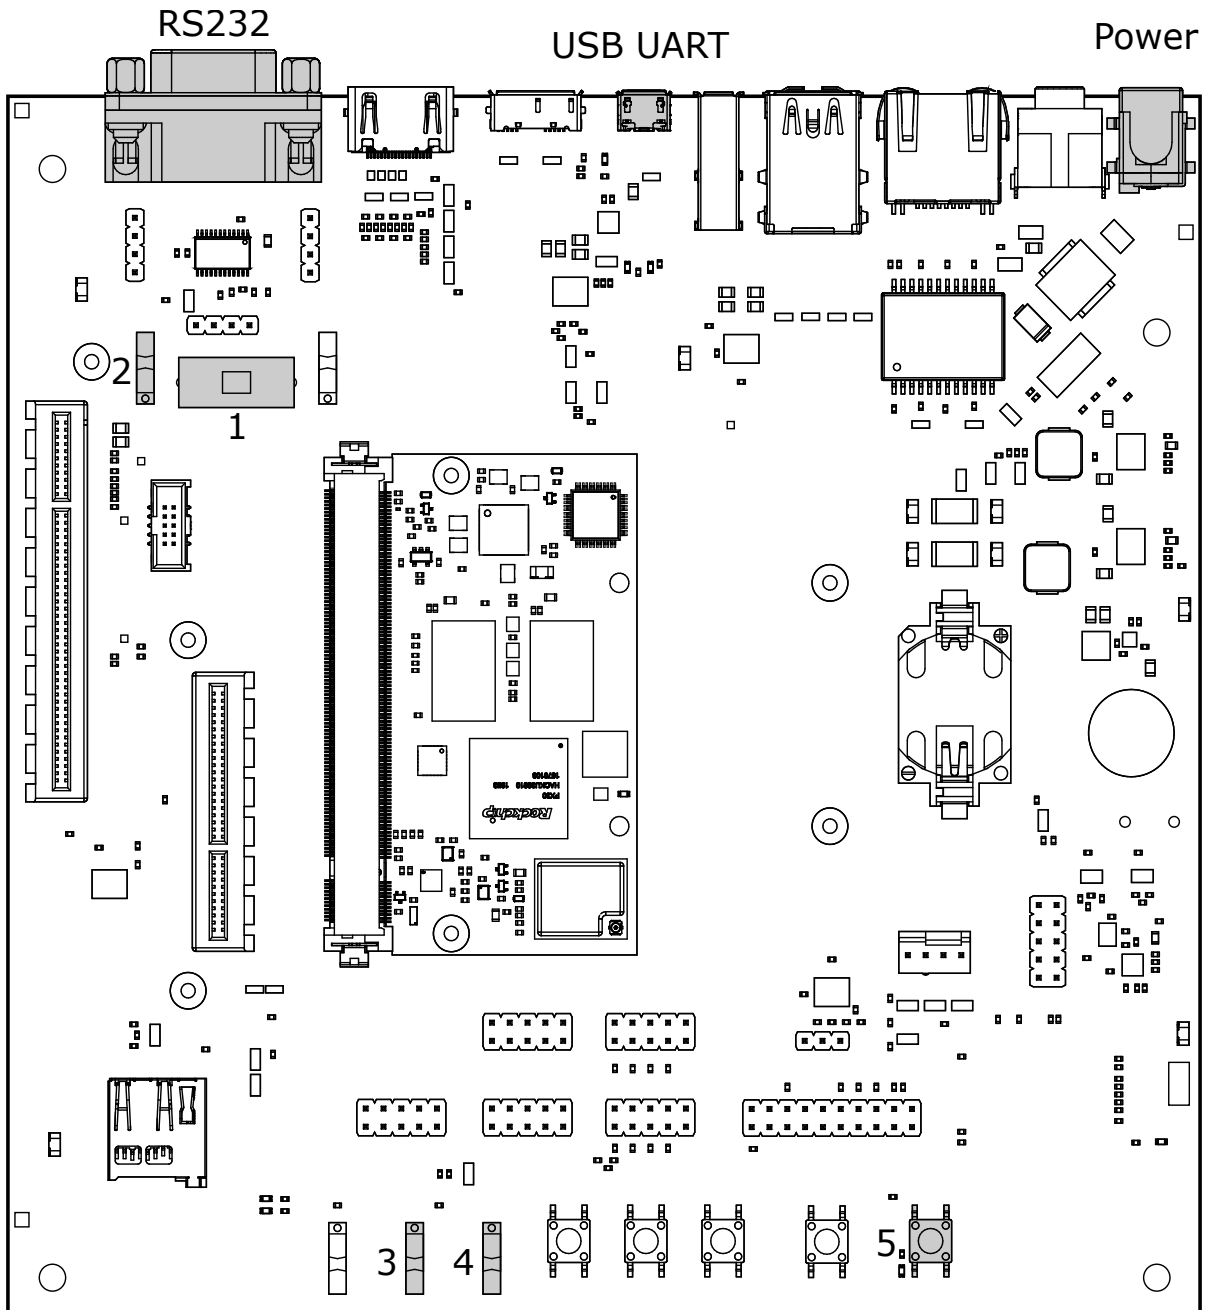

Fig. 2.2: Serial console and boot configuration
For bootloader configuration and Linux console, the serial interface can be used. Connect either a Micro-USB or RS-232 cable to the corresponding port. Select the correct UART with UART selector slider (1). For Micro-USB, the slider has to be in the right position to route the default console (UART0) to the USB-UART bridge. For RS-232, the slider has to be in the left position and the protocol slider (2) has to be in the RS-232 position (see Fig. 2.2 Serial console and boot configuration ).